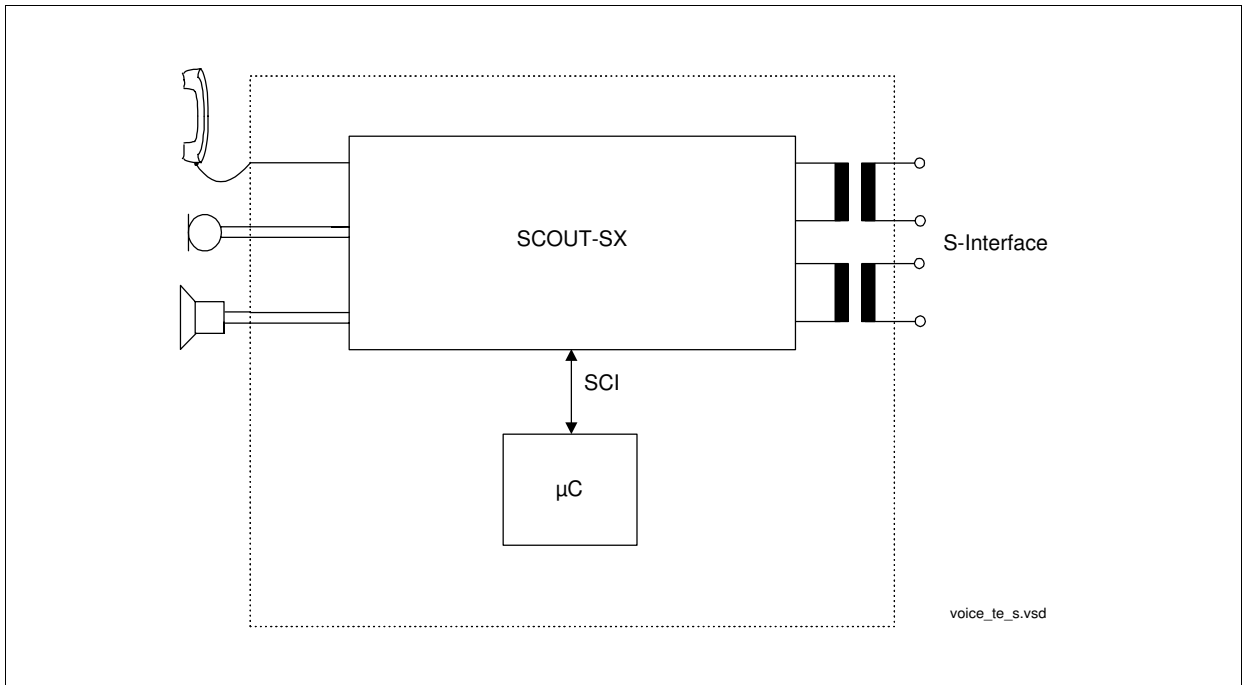

Figure 4
- ISDN voice terminal with speakerphone (**Figure 4**)